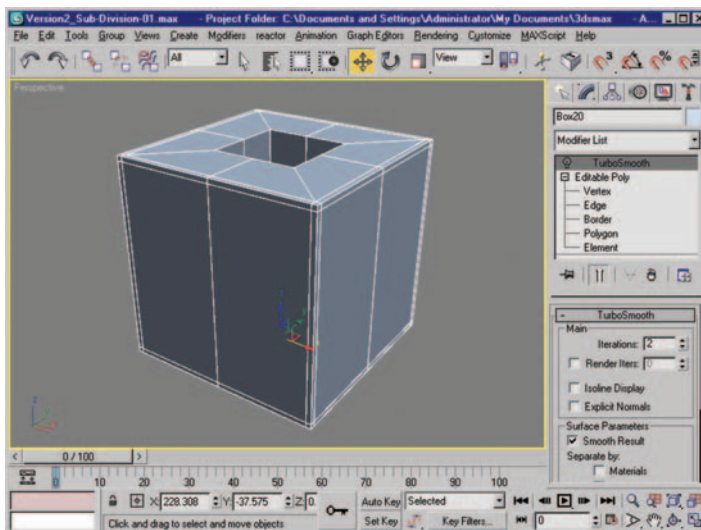

Figure 6.30 Resulting mesh after connecting the edge-ring selections.
7. Do the same for each of the remaining three edges that make up the top of the new opening. Create a ring selection, then use *Connect* on each ring selection. You should use *Connect* on one selection at a time. Figure 6.30 shows the mesh after repeating the process on the other ring selections.